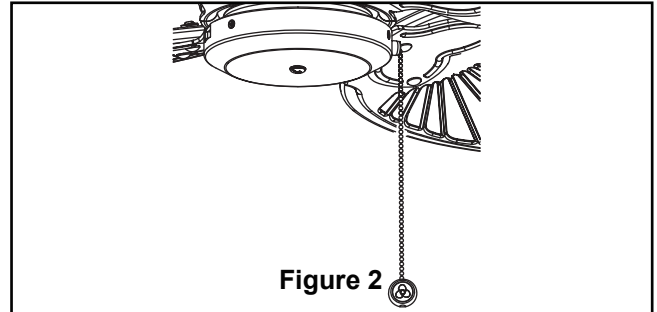

Figure 2
2. Check the operation of the fan by gently pulling on the fan fob. (Figure 2)